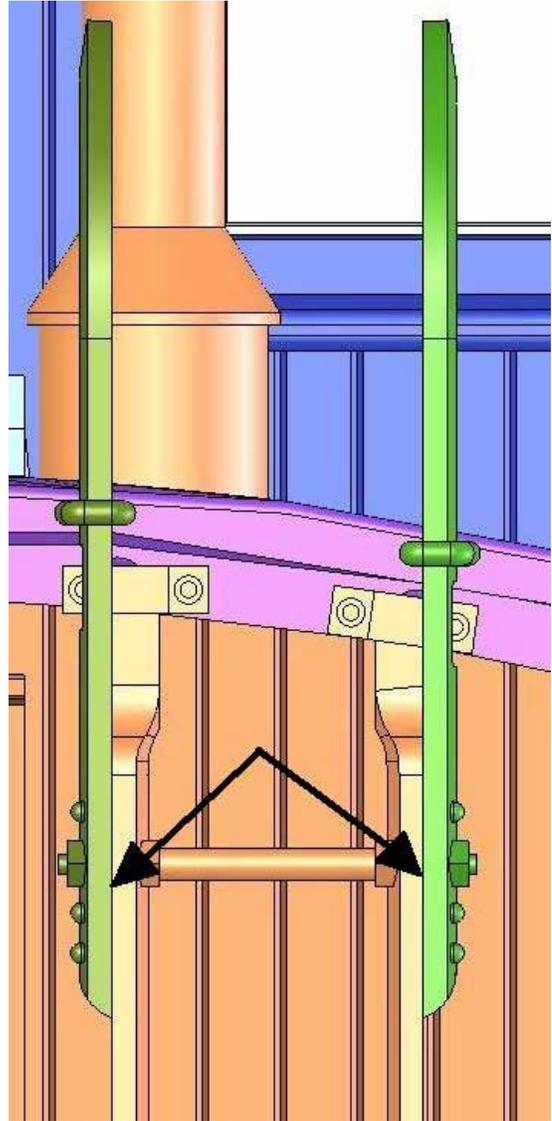

Figure 8
2. Grasp the top of the ladder extension with the tweezers and apply ACC glue to the inside of the ladder extension behind the NBW detail shown in Figure 8.